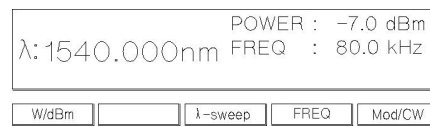

Figure 2-9. Setting the Output Power of an Internally Modulated Signal
2. Press **Mod/CW**, and **Int** if necessary, so that the display looks as shown in Figure 2-9.